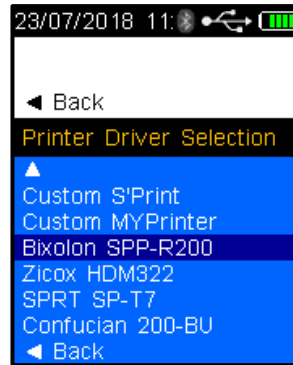

Figure 91 - Printer Selected
- Press the down button and scroll down to the printer brand and type, e.g. Bixolon SPP-R200 and press the test key to select (Refer to Figure 91).